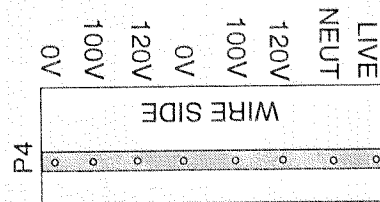

Figure 2.7. Printed Circuit Board Labeling for Mating Jumper Block
7. When you are satisfied with your jumper connections, install the jumper block back on the mating circuit board pins. Be sure that the eight circuit board pins align with the eight holes in the jumper block. Push the connector until firmly seated on the circuit board. Figure 2.7 shows the circuit board labeling for the associated jumper block connector.